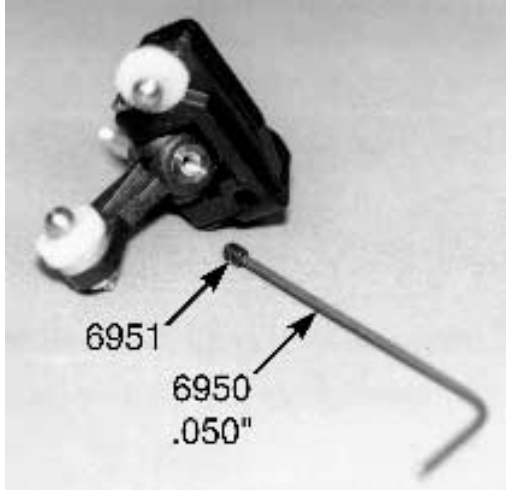

Fig. 10
Fig. 10 (1) In bag #7-1 are two small #6951 4-40 x 1/8" socket set screws. (2) Locate your #6950 tool bag. (3) Take out the smallest Allen wrench (.050") and use it to install the two set screws into the #6221 aluminum front axles. **Note: Our Associated #6957 .050 screwdriver handle Allen wrench would help here.** (4) Rotate the steering blocks in the block carriers so that you can see the threaded hole on the back side of the #6221 aluminum front axle. Slide one of the